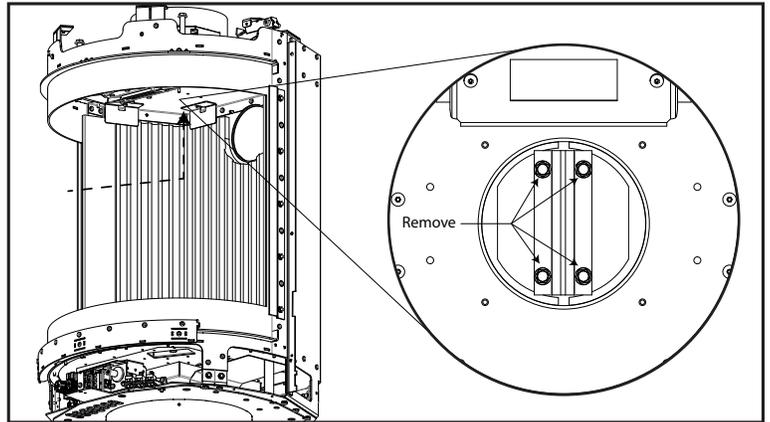

Figure 61: Restrictor Plate Removal
5. Rotate the restrictor disk by hand from inside the firebox until the four (4) screw heads are exposed; remove them using a 5/16" socket (see Figure 61). The finger catch can be loosened and moved if it is inhibiting the movement of the restrictor.